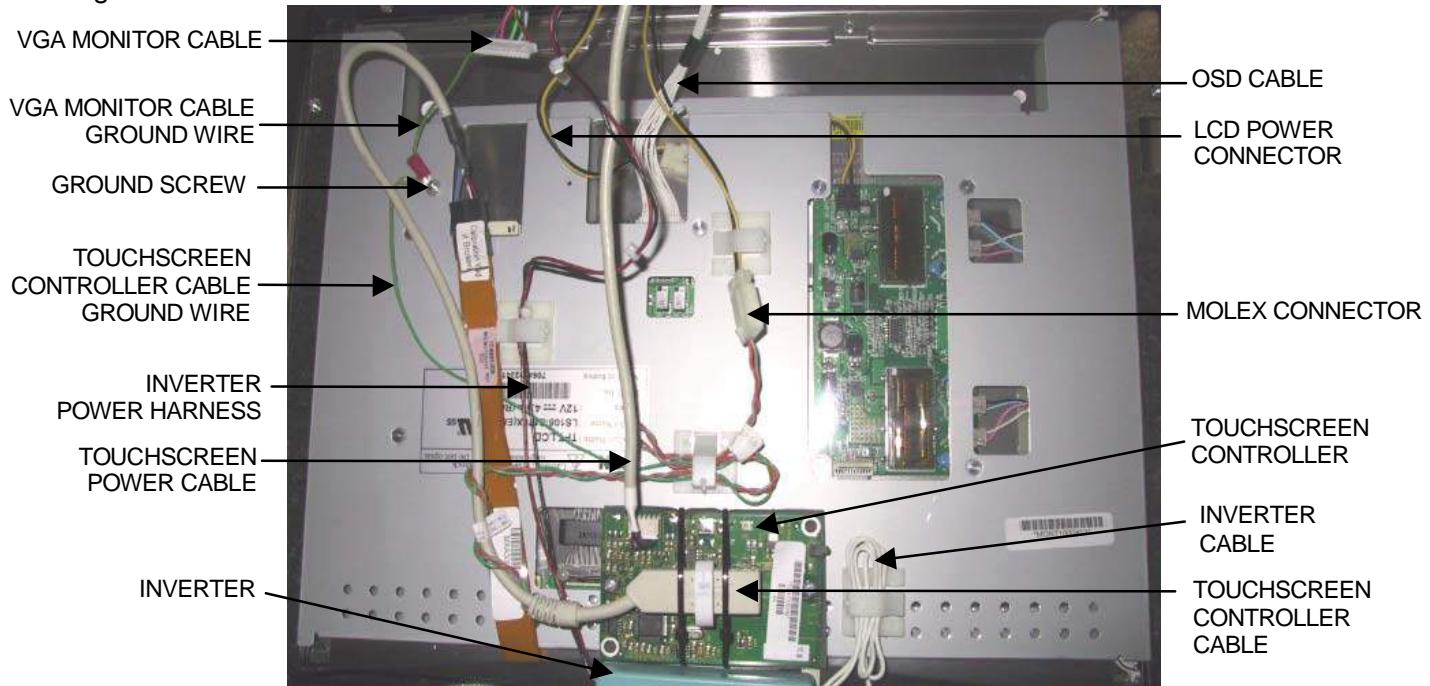

FIGURE 5 - REAR VIEW OF 17" MONITOR
7. Disconnect the VGA connector from the monitor. Remove the screw securing the VGA and touchscreen controller ground wires to the monitor (17"), or the nut securing the VGA and touchscreen controller ground wires to the ground screw on the back of the monitor (19" & Widescreen). *Note: On the Aurora Widescreen this nut may secure only the VGA ground wire.* Disconnect the 14-pin OSD cable (white wires) and the LCD power connector (yellow & black wires) from the monitor. Refer to Figure 5 for 17" games, and Figure 6 for 19" and Widescreen games.
8. Disconnect the touchscreen power cable from the touchscreen controller, then disconnect the Molex connector, identified by the orange and gray wires (this does not exist on Aurora Widescreen systems). Refer to Figure 5 for 17" games, Figure 6 for 19" and Widescreen games.
9. Release harnesses from clamps; this may include the inverter cable, the inverter power harness, the Molex harness, the touchscreen controller cable, the touchscreen controller cable ground wire, the harness connecting the Molex connector to the power supply, and/or the touchscreen ribbon cable. Refer to Figure 5 for 17" games, and Figure 6 for 19" and Widescreen games.
- If you are replacing the touchscreen: Remove the touchscreen controller cable from the touchscreen controller (see Figure 5).